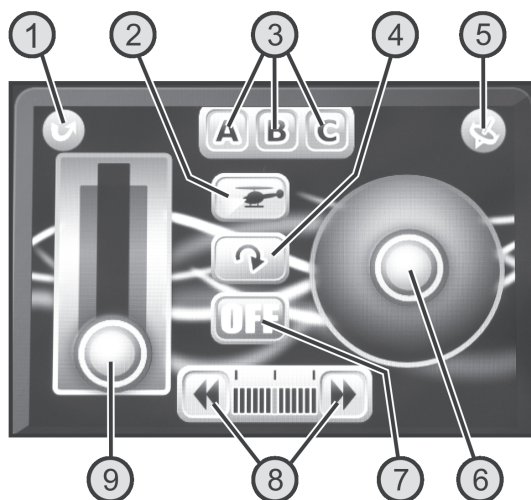
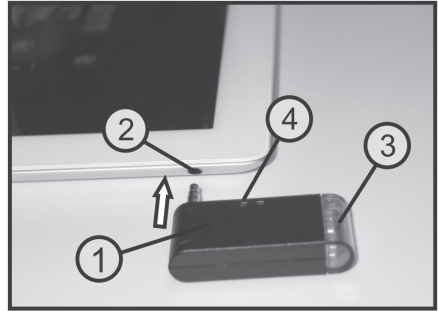
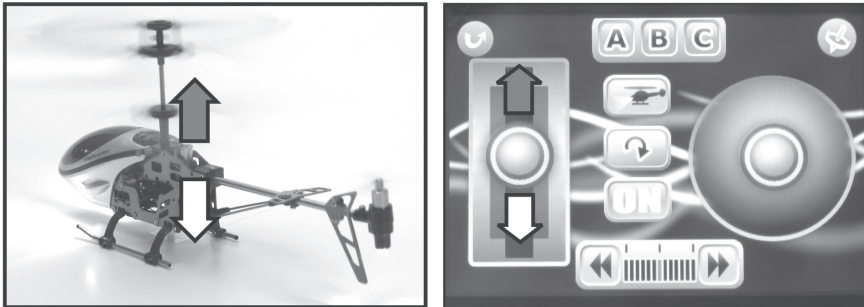

Figure 5
Figure 8
Figure 9
The display now shows the operating interface for helicopter control (see figure 5).
On demand, you may use the button for the reversing function (see figure 5, item 4) to horizontally turn the operating interface by 180°.
When operating the button for signal transfer of the IR adapter on the operating interface (see figure 5, item 7), the display switches from “OFF” to “ON”. The blue LED at the IR-adapter lights up to check the activated signal transfer to the model helicopter (see figure 8, item 4).
Use the sender signal encoding buttons (see figure 5, item 3) to select the transmission channel “B” or “C”.
With the pitch function you can control the flying height of the helicopter (see figure 9). For control, use the control area for rotor speed (also see figure 5, item 9). For this, move the left thumb from the bottom position up and back. Since the angles of attack of the rotor blades are not modifiable, setting the flying height is effected via a common speed modification of the two rotors.
The tail function is controlled with the left control area (see figure 5, item 6). If the control area is pushed slightly towards the left with the right thumb, the tip of the fuselage turns towards the left. If you steer towards the right, the tip of the fuselage turns likewise towards the right.
The tail function is also controlled with the control area for turning and direction control (see figure 5, item 6). If you push the control area slightly forward with the right thumb, the tail rises and the model flies forwards. If you push control area towards the back, the tail drops and the model flies backwards.
To switch to the motion sensors, activate the button for motion control (see figure 5, item 5). The button switches its background colour from grey to red when motion control is active.
The tail and nod controls now react to turning and tilting motions of the Apple® iPad, Apple® iPhone or Apple® iPod touch. The control area for tail and nod function (also see figure 5, item 6) serves as control display.